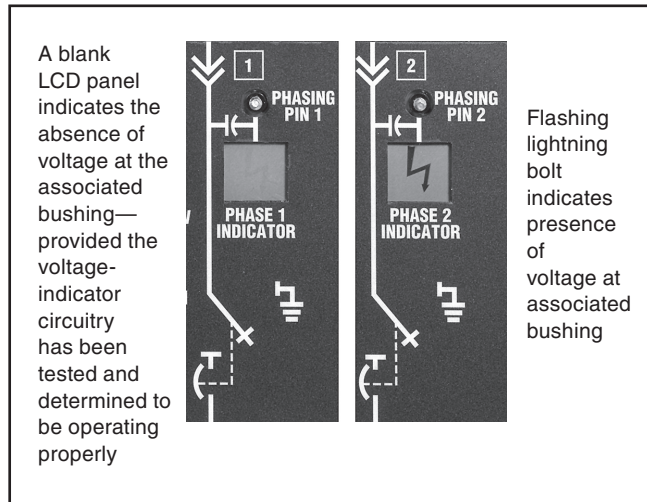

Figure 22. Phase indicators.
STEP 2. Check the **Phase** indicators for the desired phases of the fault interrupter to determine if there is any voltage at the associated bushings. See Figures 22 and 23. A flashing lightning bolt  in the **Phase** indicator means that voltage is present at the bushing. A blank means either: